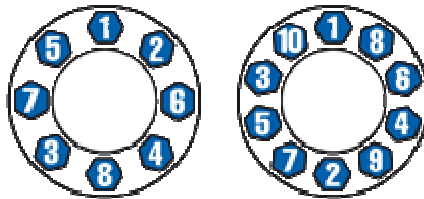

Figure 2: Eight (8) and ten (10) lug hub-piloted disc wheels
- 4.5 **AFTER BOTH TIRES ARE COMPLETELY DEFLATED**, begin to break lug nuts loose with a few turns of a socket wrench in a "star" or "crisscross" pattern (see Figure 2 for hub-piloted disc wheel lug nut patterns). Air wrench may be used to loosen.
- 5.7 Tighten lug nuts in prescribed crisscross / star pattern (see Figure 2); as a visual check, the same number of stud threads should show above the lug nuts after each tightening sequence.